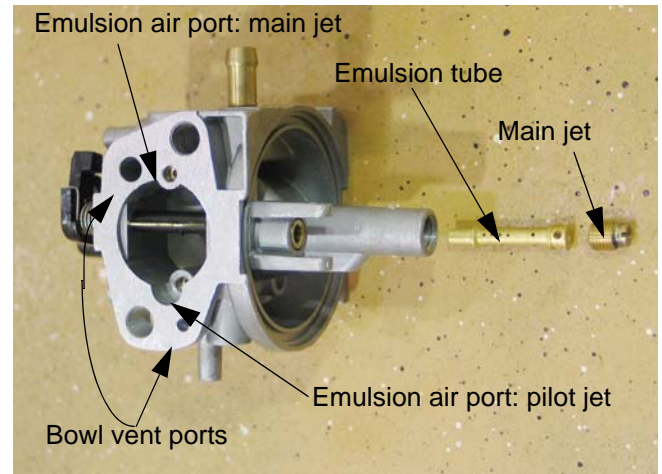

Figure 4.44
**NOTE:** The main jet secures the emulsion tube in the central column of the carburetor. See Figure 4.44.